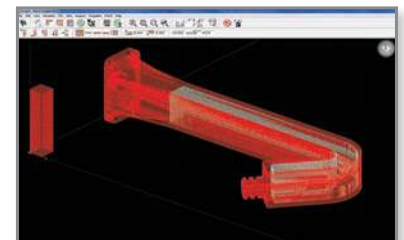

Figure 12: Combine both regions and process for building.
STEP 13: Position sub-regions within the job by entering the **Slice curve location** (0, 0, 0). The reference feature will ensure all regions are aligned properly (Figure 12).